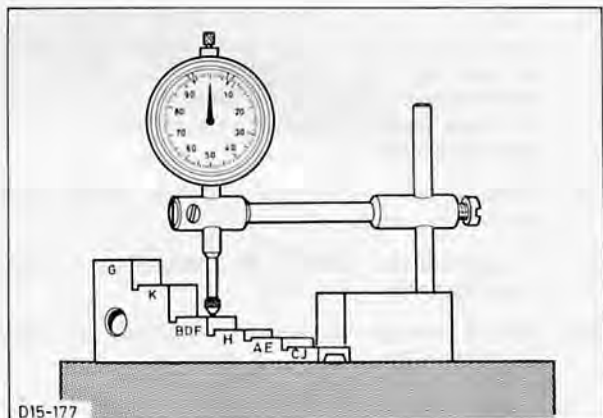

Fig. 113. Zero dial indicator using setting gauge
21. Remove dial indicator from holding fixture and secure in mounting block. Place mounting block with dial indicator on a ground surface and set to 'O' with the aid of the setting gauge as illustrated, Fig. 113.